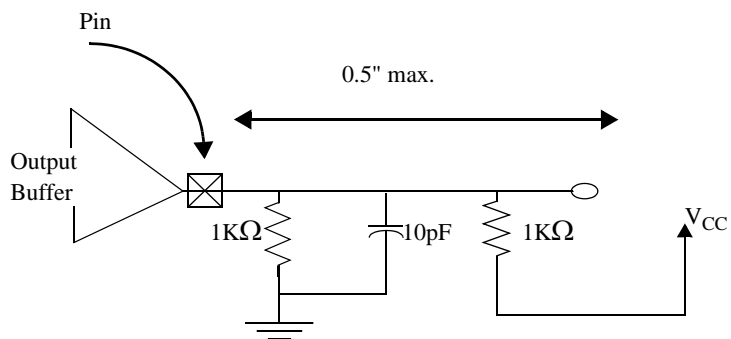
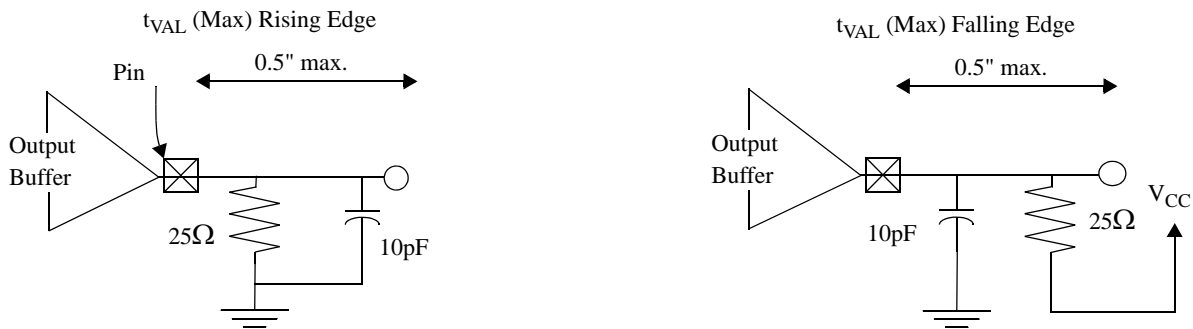

Figure 7-10 Testing Setup for Slew Rate and Minimum Timing
Figure 7-13 Load Circuits for Maximum Time Measurements
3. Rise slew rate does not apply to open-drain outputs. This parameter is interpreted as the cumulative edge rate across the specified range. According to the test circuit Figure 7-10.
1. See the timing measurement conditions in Figure 7-10.
2. Minimum times are evaluated with same load used for slew rate measurement (as shown in Figure 7-10); maximum times are evaluated with the load circuits shown in Figure 7-13, for high-going and low-going edges respectively.